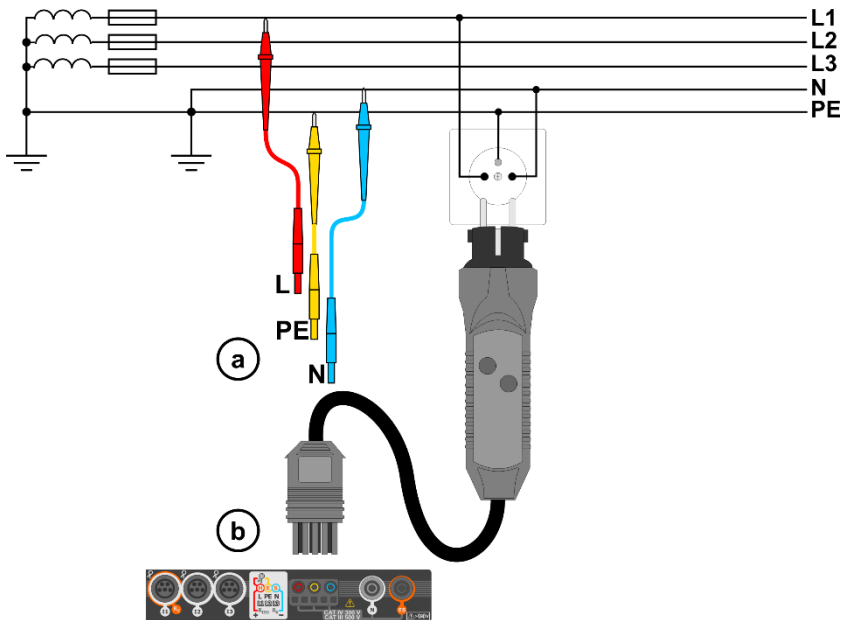
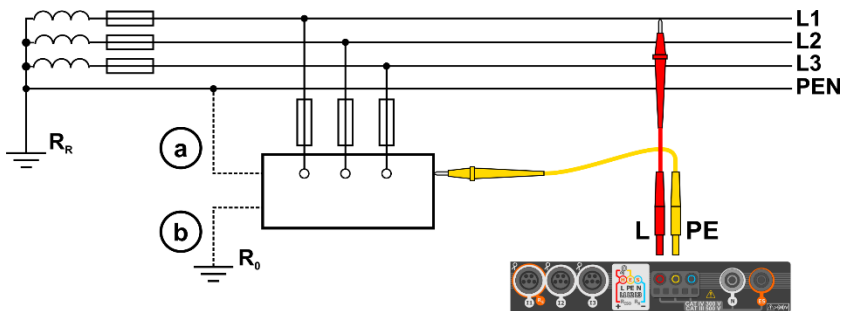

Fig. 3.1 Measurement in L-PE circuit
Fig. 3.2 Checking effectiveness of protection against electric shock of the meter housing in case of: **a**) TN network or **b**) TT network
- 1 Connect test leads according to Fig. 3.1 or Fig. 3.2.